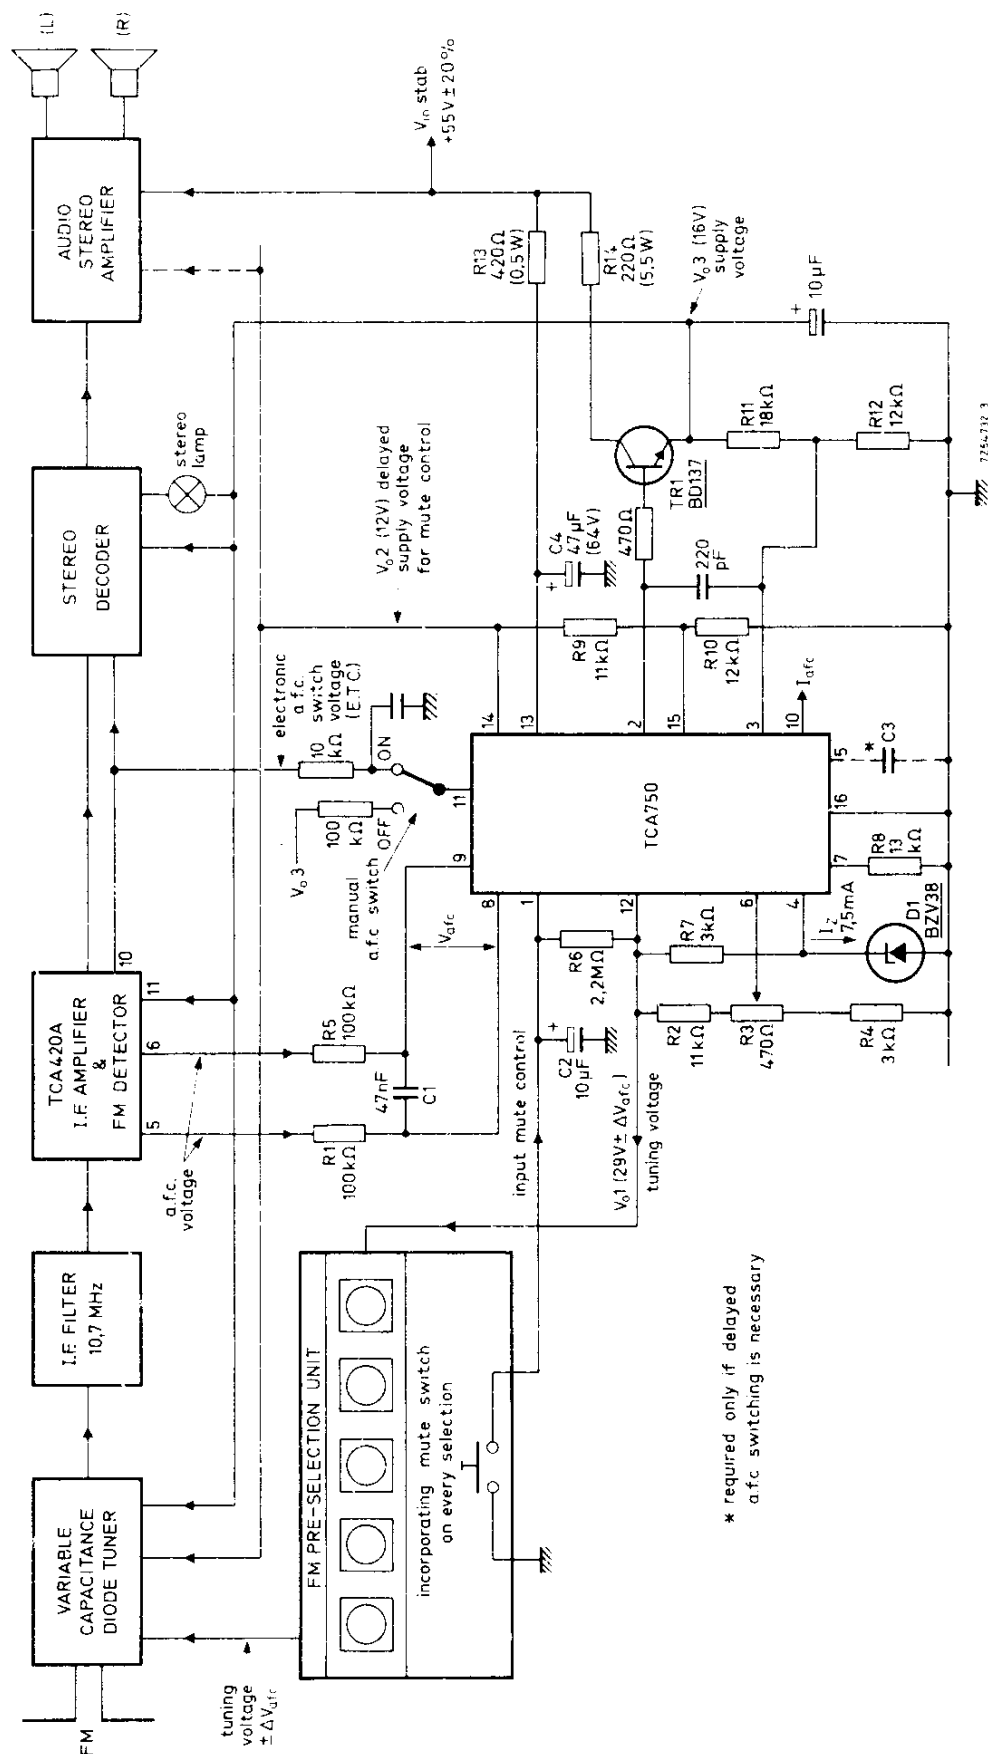

Fig. 8 Hi-fi radio receiver with electronic tuning using TCA750.
4. If a higher level is required from the output of stabilizer 1, the reference diode supply may be obtained from the emitter of a power transistor connected to the output from stabilizer 3 (see Fig. 8). In this case, the current available from stabilizer 1 is increased to 12,5 mA (bleeder current $I_{RA1} = 2\text{ mA}$).